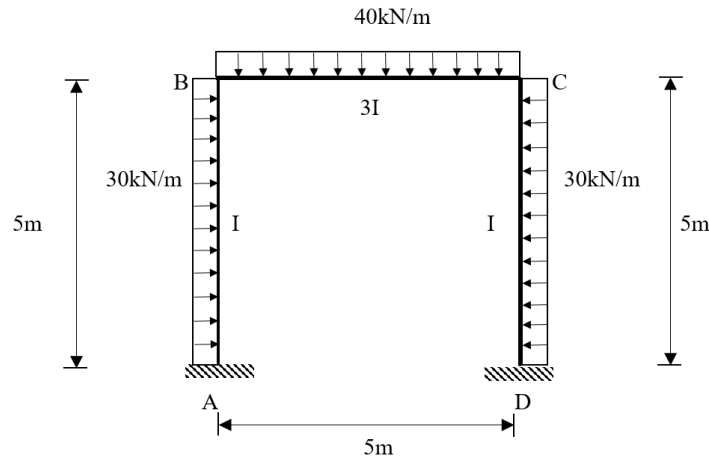

Figure B4(c)/ *Rajah B4(c)*
- CLO1 (c) A portal frame is loaded at the position as shown in Figure B4(c). Given value of FEM as in Table B4(c). By using Moment Distribution Method: